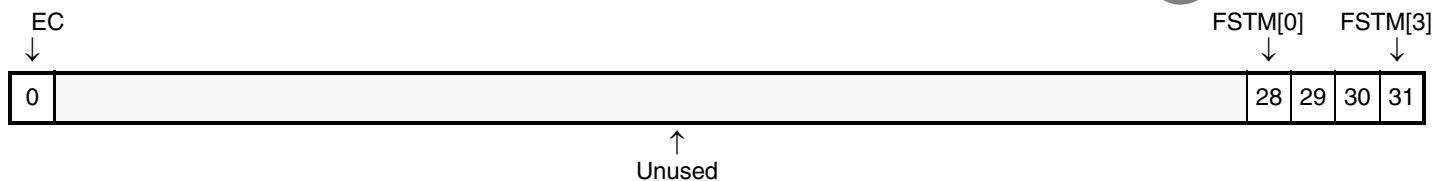

Figure 4: ADC Control Register (C_FSTM_WIDTH = 4)
4. The bit mapping is shown in Figure 4.
The ADC Control Register contains the Enable Conversion bit (EC) and the Filter Settle Time Multiplier (FSTM). The Enable Conversion bit will enable/disable the Analog to Digital Conversion process. FSTM is a binary value, which depends on the RC characteristics of the low pass filter being used for conversion of DACout pulse train into equivalent analog signal. Bit sample time is effectively multiplied by Filter Settle Time Multiplier(FSTM) +1, so the user can configure the bit sample rate to match the Filter Settle Time characteristics. The width of FSTM value is configurable with the parameter C_FSTM_WIDTH. For most of the applications a 4-bit value is sufficient. As shown in Figure 4, the ADCCR contains the EC and FSTM. The bit definitions for ADC Control Register are shown in Table 8, when C_FSTM_WIDTH = 4.